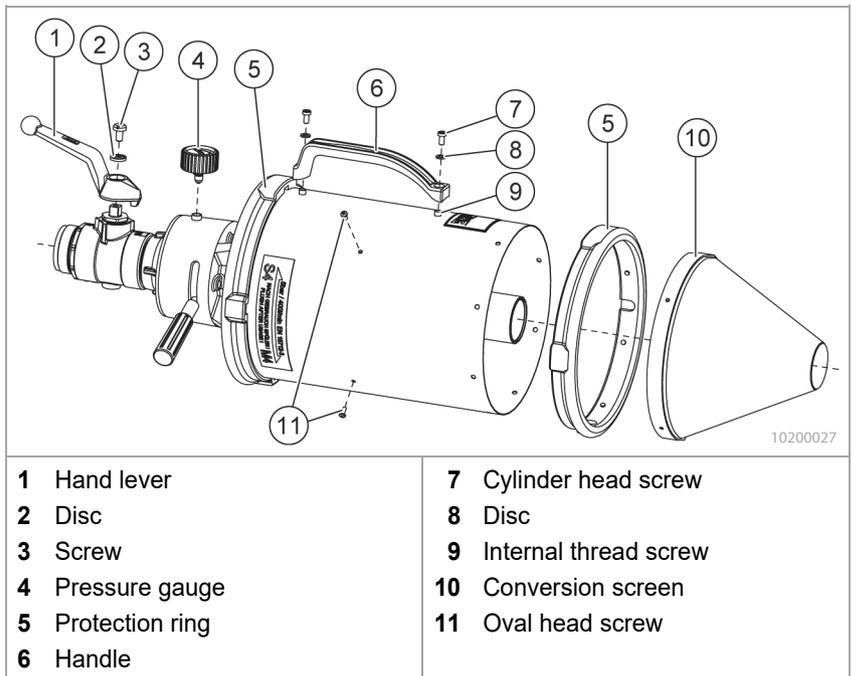

Fig. 3 Repair
1. Use a screwdriver to unscrew the three oval head screws (Fig. 3/11).
2. Remove the conversion screen (Fig. 3/10) from the foam tube.
1. Unscrew the cylinder head screws (Fig. 3/7).
2. Remove the handle (Fig. 3/6) from the foam tube.
3. Insert the cylinder head screws and the discs (Fig. 3/8) into the new handle.
4. Place the handle in the correct position on the internal thread screws (Fig. 3/9) and screw tight.
1. Unscrew the screw (Fig. 3/3).
4. Insert the screw and the disc (Fig. 3/2) into the new hand lever.
1. Lever the protection ring with studs out of the bores, and pull the protection ring (Fig. 3/5) off the foam tube.
1. Use a spanner A/F 14 to unscrew the pressure gauge (Fig. 3/4) from the nozzle body.